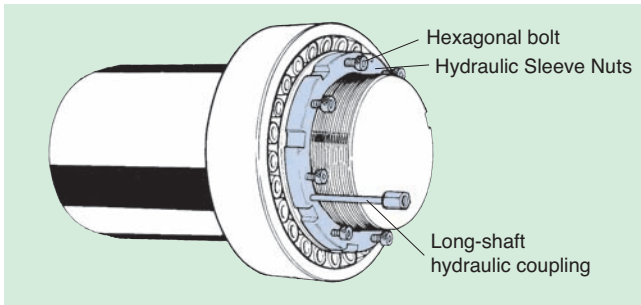

Fig. 15
- (4) Check that the holes in the hydraulic withdrawal sleeve, protective plate and installation nut are aligned along the same shaft, and connect the hose from the long-shaft hydraulic coupling and hydraulic pump (see Fig. 15).